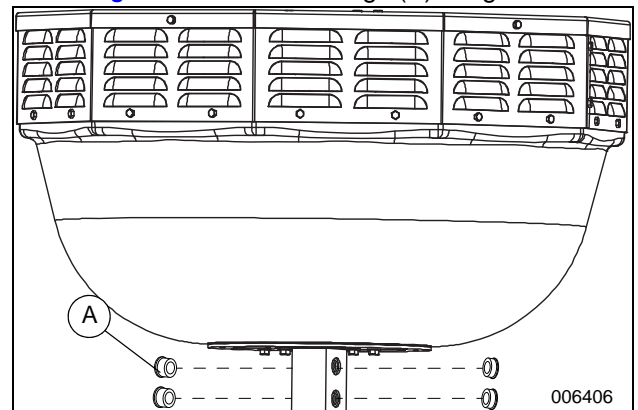

Figure 10. Bearing Installation
5. See Figure 10. Install bearings (A) to light fixture.